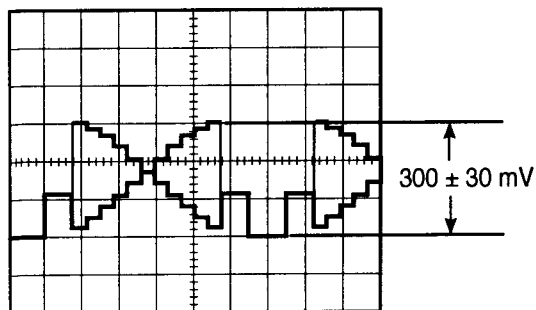

Fig. 5-12
- Adjust data with the **ARROW** keys so that AGCOUT signal level becomes 300 ± 30 mV as shown in Fig. 5-12.